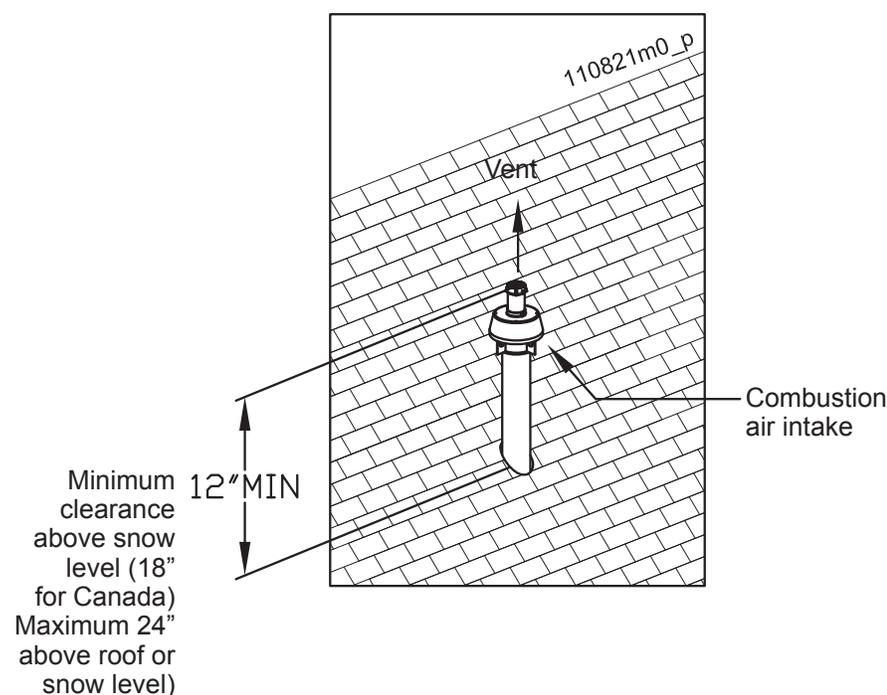

Figure 10-26 Concentric vertical termination
Both combustion air and vent pipes must attach to the termination kit. The termination kit must terminate outside the structure and must be installed as shown in Figure 10-26.
1. Determine the best location for the termination kit (see Figure 10-26).
4. Cut one (1) hole 6 inch diameter into the structure to install the termination kit.
NOTICE Ensure termination location clearance dimensions are as shown in Figure 10-26.
NOTICE Ensure termination height is above the roof surface or anticipated snow level (12 inches in U.S.A. or 18 inches in Canada) as shown in Figures 10-26.